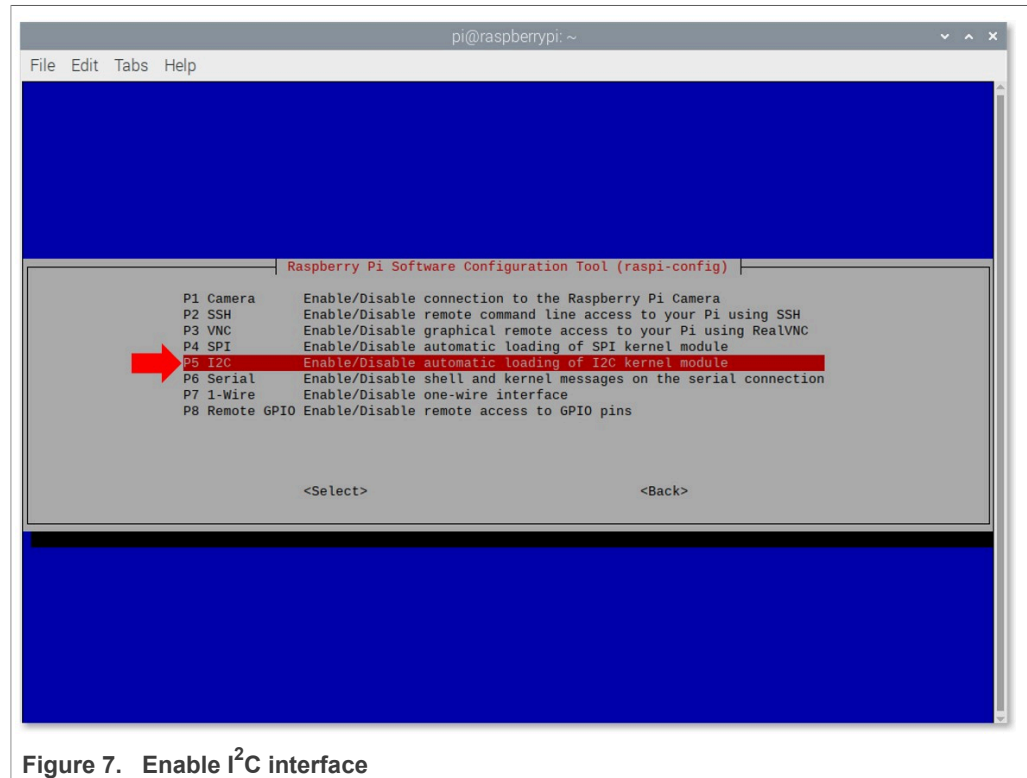

Figure 7. Enable I²C interface
- Use the up and down arrow keys to select the 5th menu option (I²C) and then press Enter, as shown in Figure 7: